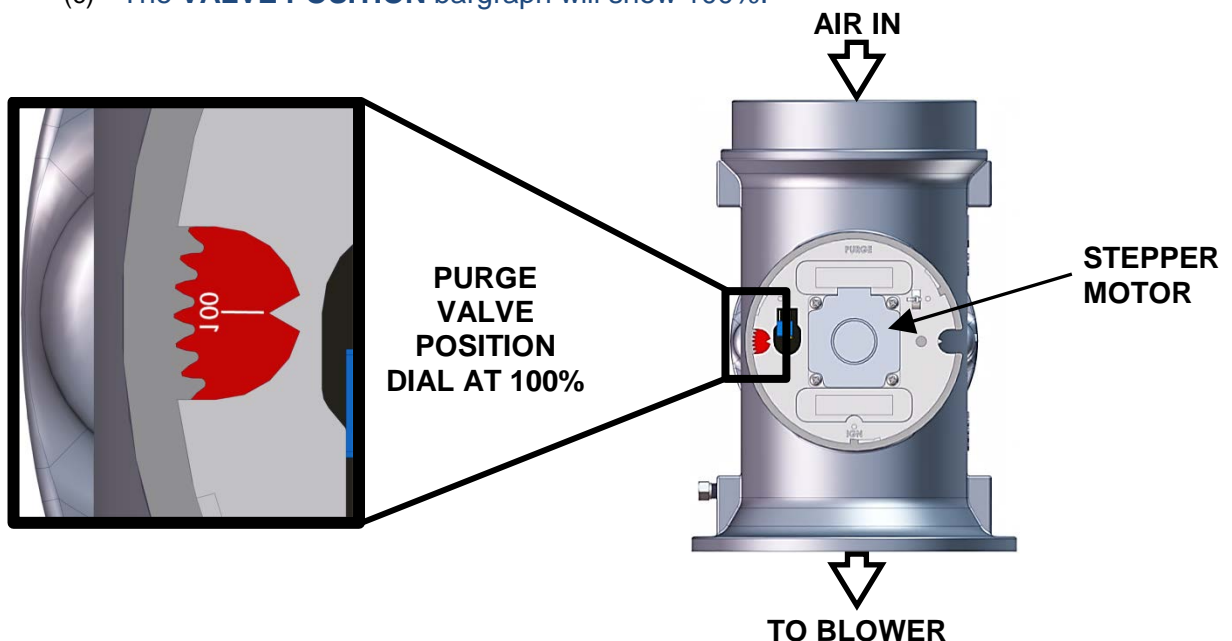

Figure 3-4. Air/Fuel Valve In Purge Position
- (b) The Air/Fuel Valve rotates to the full-open purge position and closes purge position switch. The dial on the Air/Fuel Valve (Figure 3-4) will read 100 to indicate that it is full-open (100%).